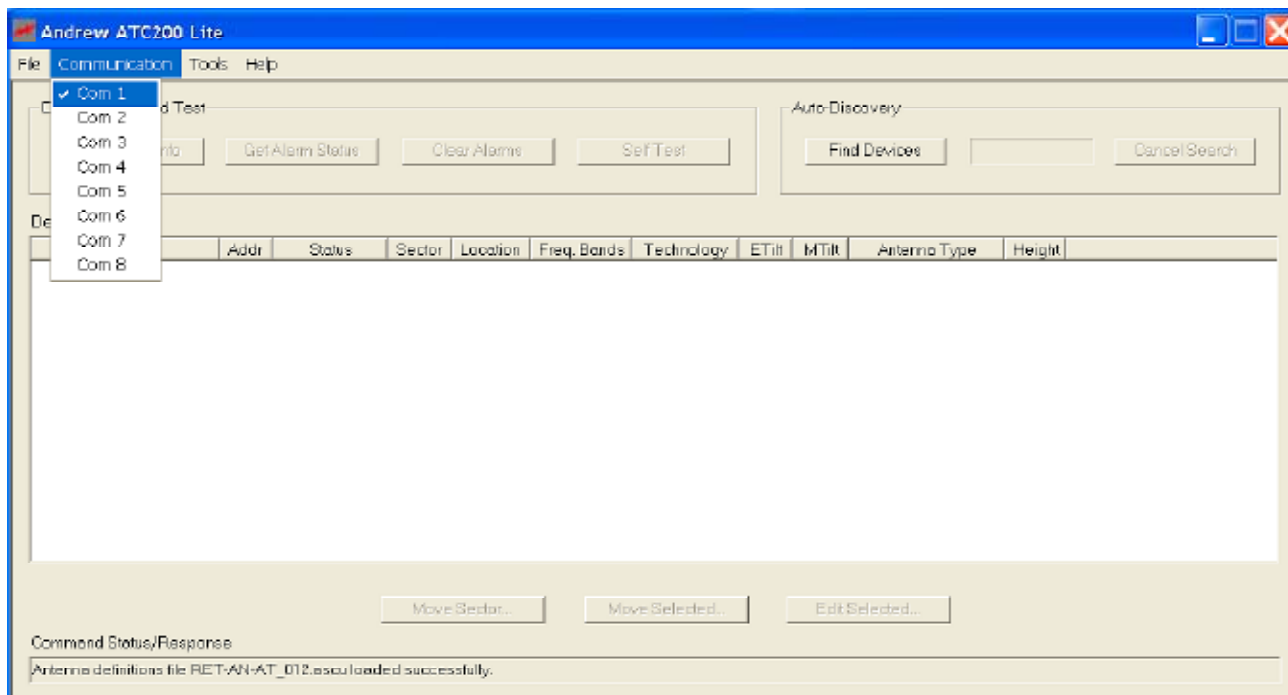

Figure 3-5. Selecting a Serial Port.
4. If this occurs, use the ‘Communication’ menu located at the top of the main screen to select an available serial port. Make certain that the controller is connected to the port selected (Figure 3-5).